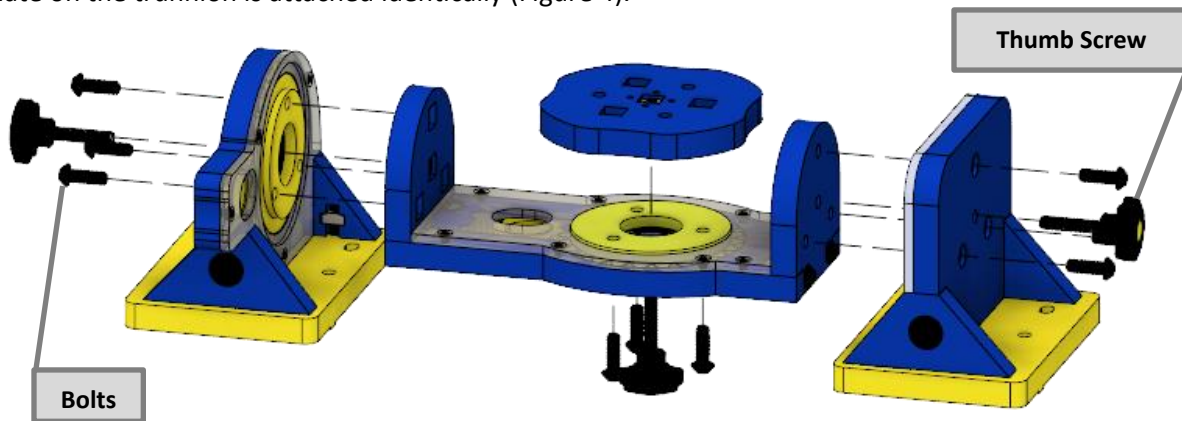

Figure 4
The trunnion will then be released from the driving and driven sides of the tool. Note that the mounting plate on the trunnion is attached identically (Figure 4).
- 1) Loosen thumb screw of the axes to be rotated (Figure 4).
- 3) Attach the mounting plate (now securely attached to the stock) to the trunnion using the 3 1/4-20 mounting bolts and center tightening knob (Figure 4).